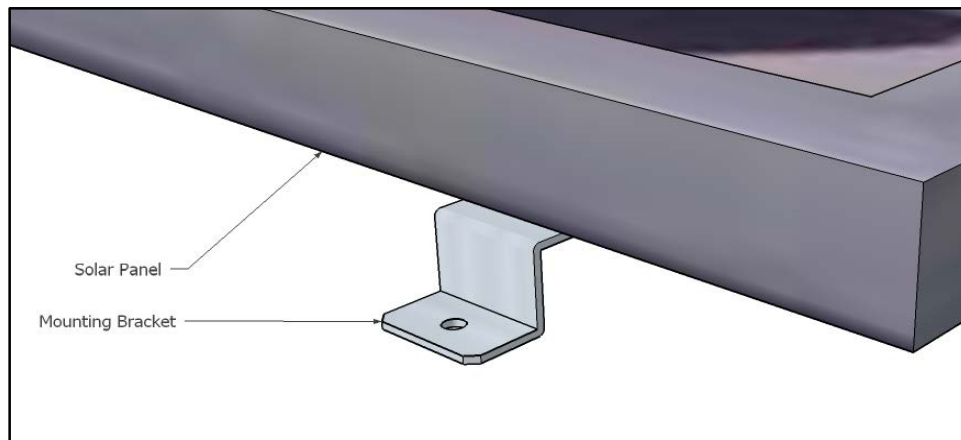
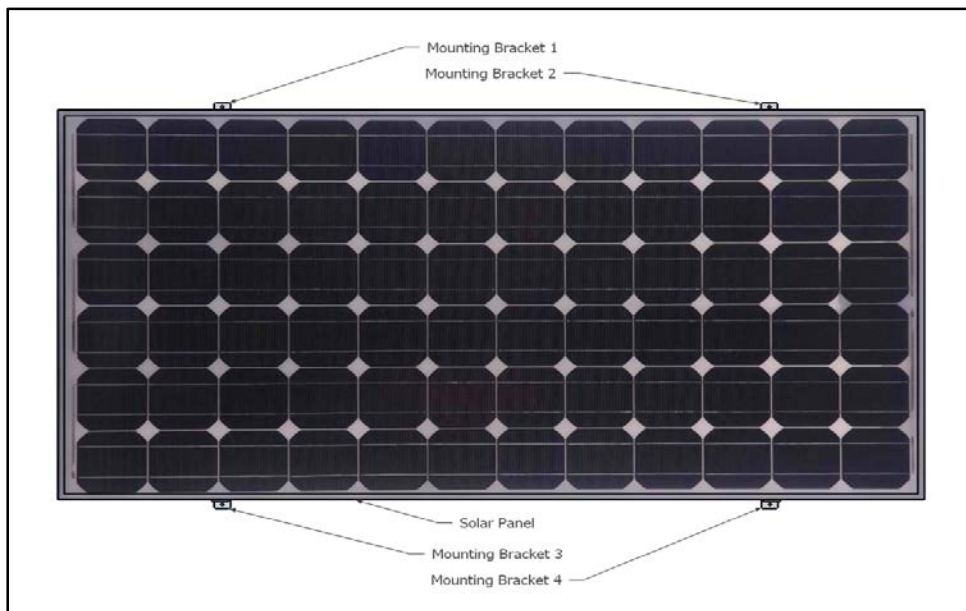

Figure 1: Single mounting bracket placement on solar panel
Figure 2: Placement of four mounting brackets
2. Place and secure four mounting brackets on the panel as per Figure 1 and Figure 2.